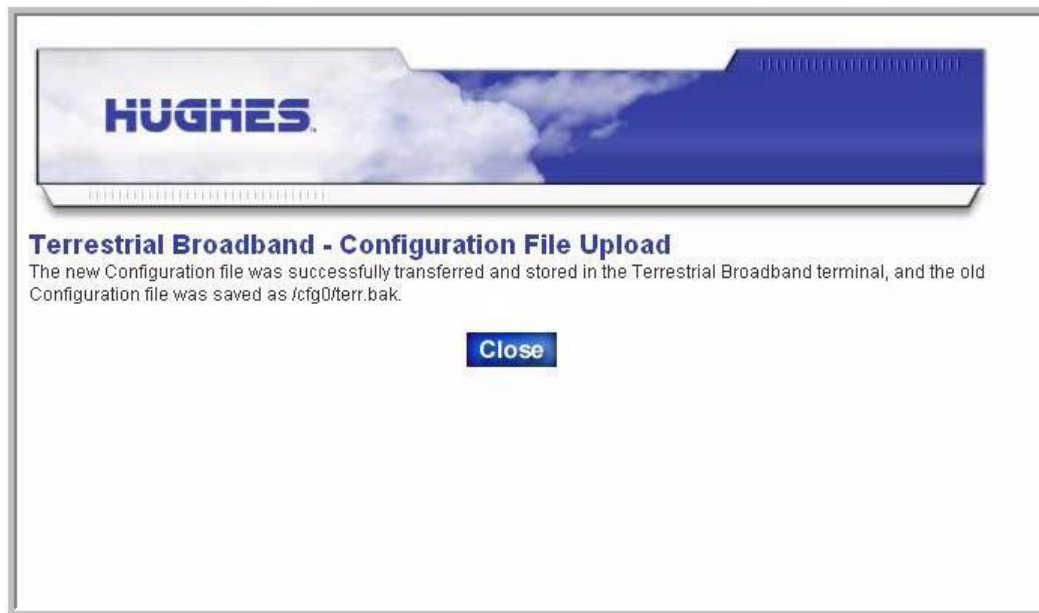

Figure 13: Configuration file confirmation
5. The system displays a confirmation screen as shown in Figure 13 indicating the the file was successfully transferred.